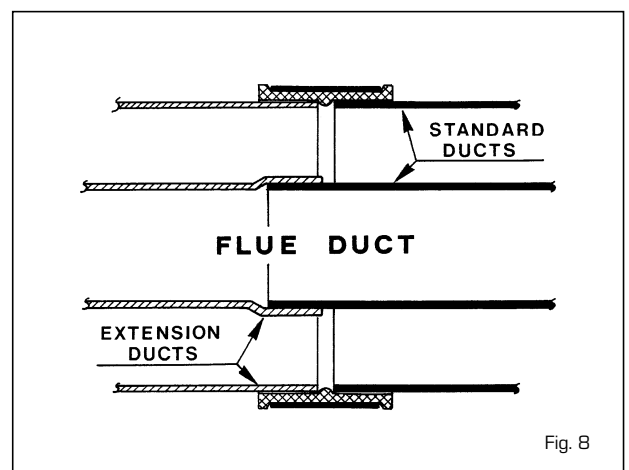

Fig. 8
- If an extension duct or ducts is/are to be used, the flue and air ducts should be joined before proceeding to the next section. The extension ducts should be joined to each other and to the standard ducts using the following procedure (fig. 8);